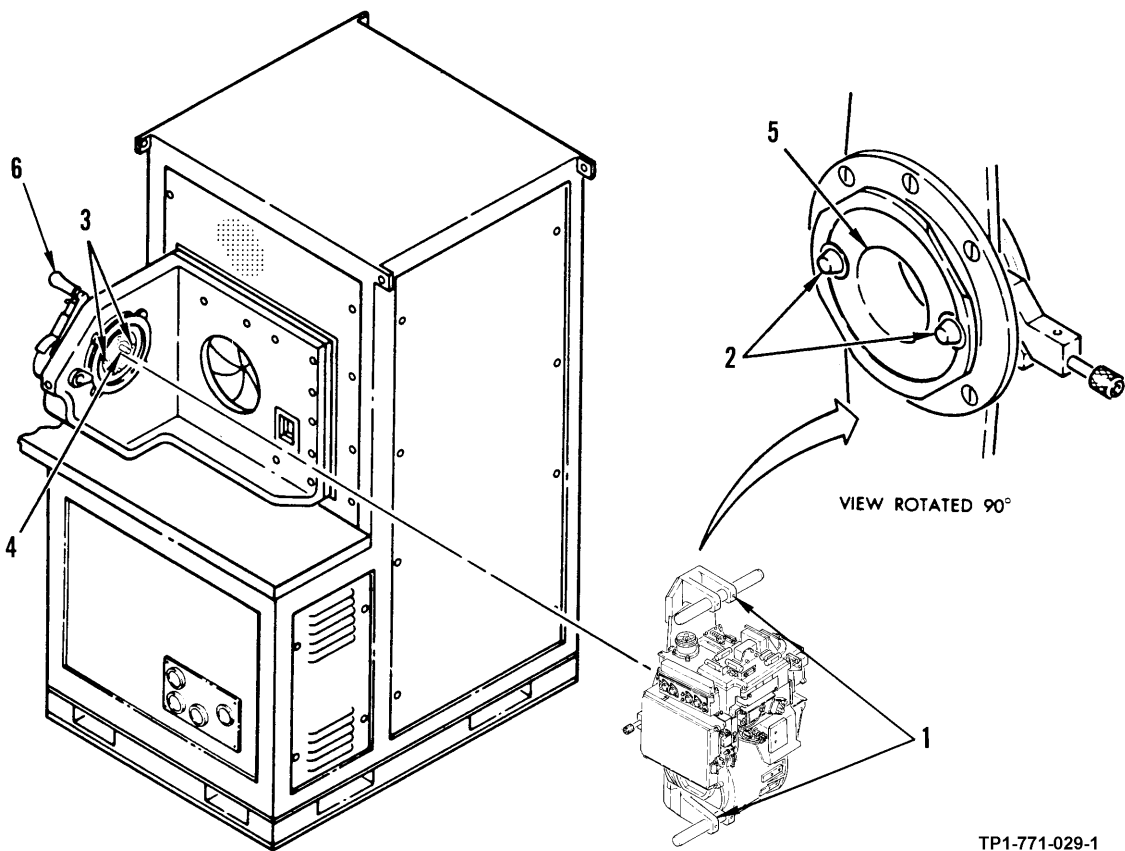

Figure 2-22. Mounting TADS NSA/Channel Balance Adapter to Sensor Mount Assembly
- (5) Lift TADS NSA by handles (1, figure 2-22) of channel balance adapter and alive numbered guide pins (2) with corresponding numbered holes (3) on sensor mount assembly. Ensure that guide pin (4) on sensor mount assembly is aligned with hole (5) in channel balance adapter.